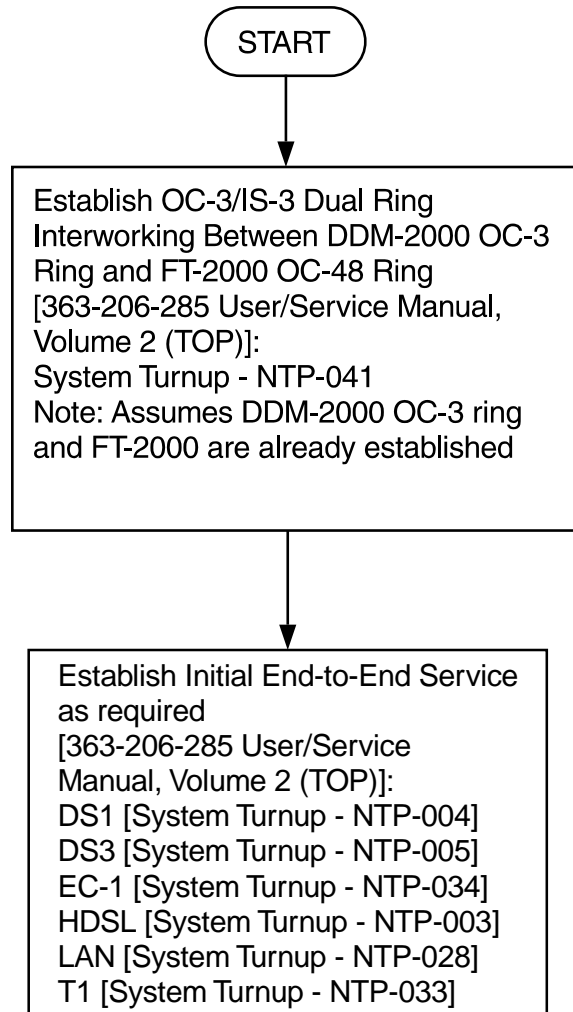

Figure 20 – DDM-2000/FT-2000 Large Network Configurations — OC-3/IS-3 Dual Ring Interworking Between DDM-2000 OC-3 Ring and FT-2000 OC-48
- Figure 20 DDM-2000/FT-2000 Large Network Configurations — OC-3/IS-3 Dual Ring Interworking Between DDM-2000 OC-3 Ring and FT-2000 OC-48